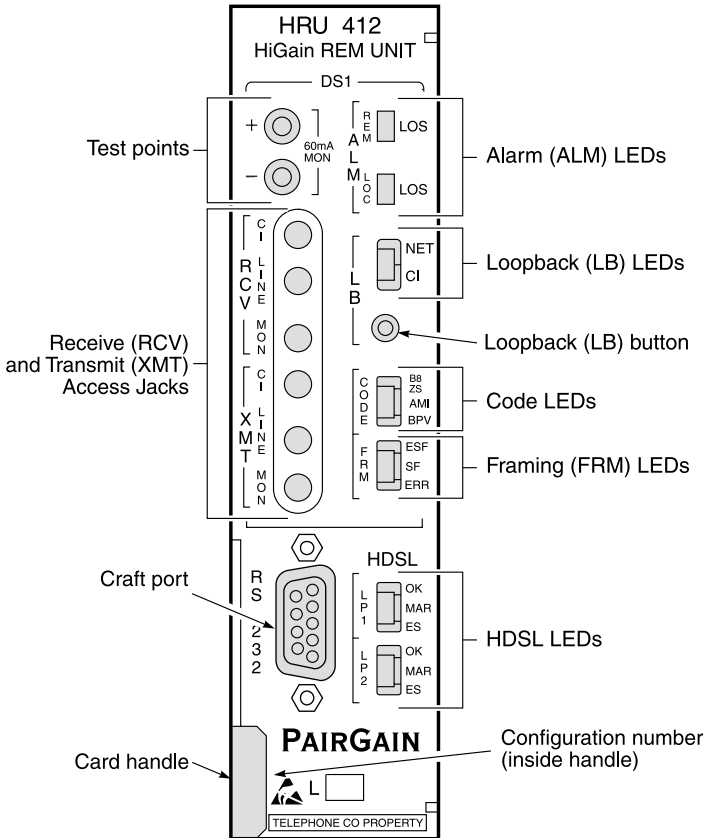

Figure 1. HRU-412 List 7A Front Panel
Figure 1 shows the front view of the HRU-412 List 7A. Table 1 describes the unit's front panel components.
- 1 Press the loopback button (see Figure 1 for the location of this button) for at least 5 seconds.